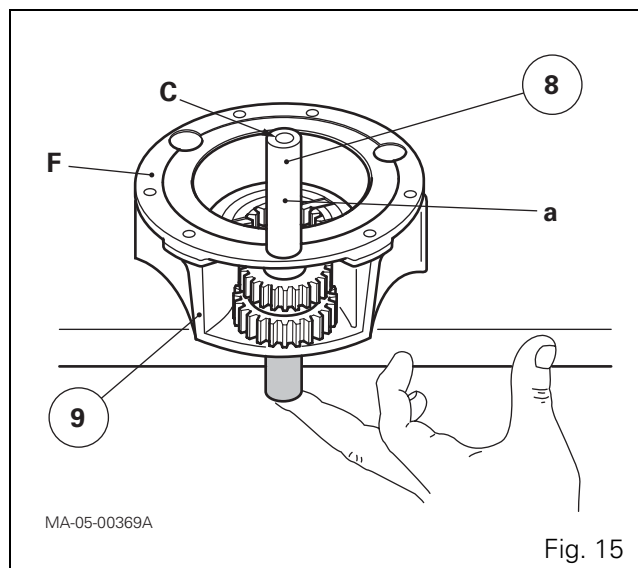
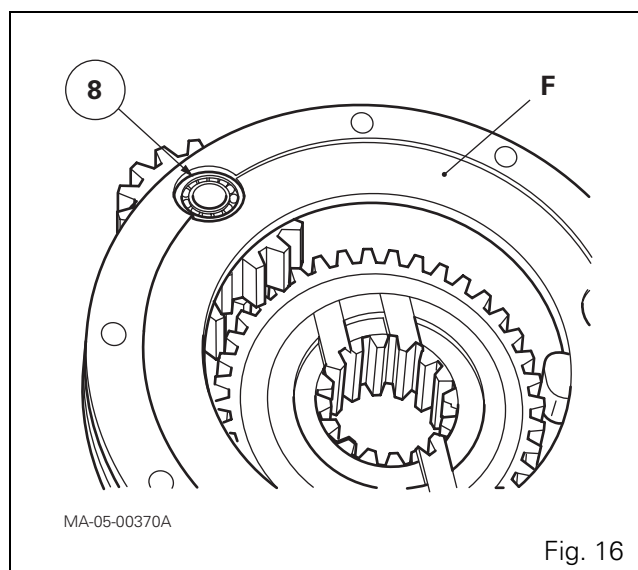

Fig. 15
Fig. 16
35. Position the washers (17).
36. Centre the planet gear and washers with a guide pin Ø 16 mm, L = 80 mm (Fig. 15).
37. Insert the pin (8) into the free bore on face "F" of the unit (9) (Fig. 15) Fit it partially set back (Fig. 16), with the radial lubricating hole "a" turned outwards and the end of central channel "C" turned towards face "F" (Fig. 15).